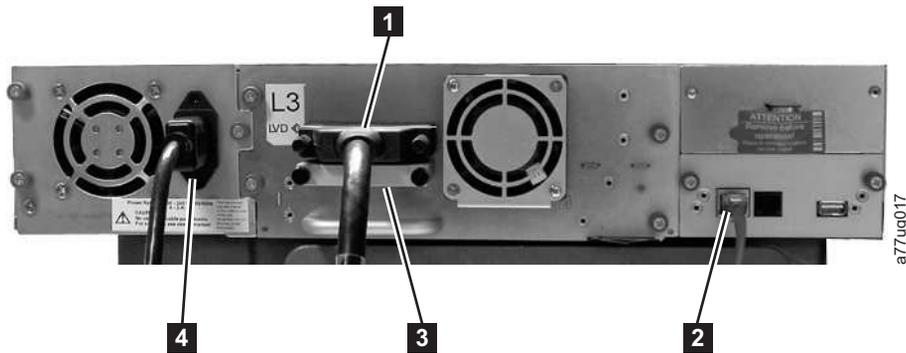
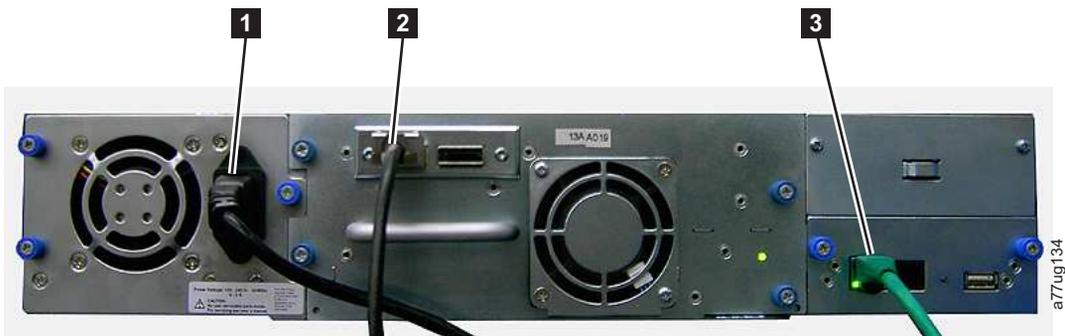

Figure 37. Attaching a SCSI host interface cable to the 2U library
Figure 39. Attaching a SAS interface cable to the 2U library
2. For a SCSI library, attach one end of the host interface cable to one of the connectors on the back panel of the library (see **1** in Figure 37 on page 53). For a Fibre Channel library, attach one end of the host interface cable to the connector on the back panel of the library (see **4** in Figure 38 on page 53). For a Serial Attached SCSI (SAS) connected library, attach the host end of the SAS cable to the SAS HBA (see **2** in Figure 39 on page 53). Full high drives will have dual SAS connectors. Half high drives will have one SAS connector.
- For a SCSI library, connect the host interface cable to the connector on the SCSI host bus adapter or to the connector on the previous device on the SCSI bus. Attach the terminator (**3** in Figure 37) to the remaining SCSI connector on the back panel of the library, if the library is the last or only device on the
4. Plug the network ethernet cable (**2** in Figure 37 on page 53, **5** in Figure 38 on page 53, or **3** in Figure 39 on page 53) into the ethernet port on the back panel of the library. If the ethernet connection is directly attached to a server or laptop, a crossover ethernet cable may be required.